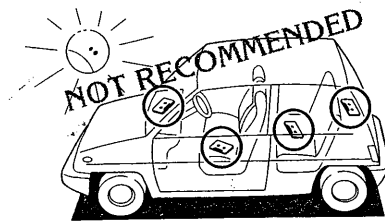

Fig. 30
- Storing cassettes in areas directly exposed to sunlight or high temperatures can distort them and subsequently interfere with tape transport. (Fig. 30)